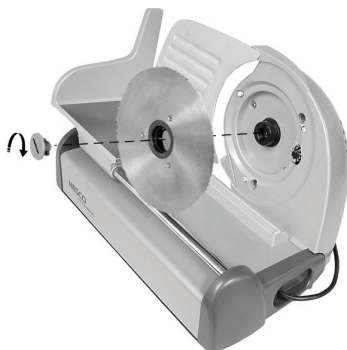

Figure 5
8. After cleaning and drying, install Blade and Blade Locking Screw to Motor in reverse order of Step 6 (see Figure 5). Carefully place Blade on mating hub of Motor Assembly. Align the Locking Screw tabs with the mating slots in the plastic hub of Motor Assembly and press in until seated. Rotate Locking Screw 1/4 turn counter-clockwise to lock Blade in place.